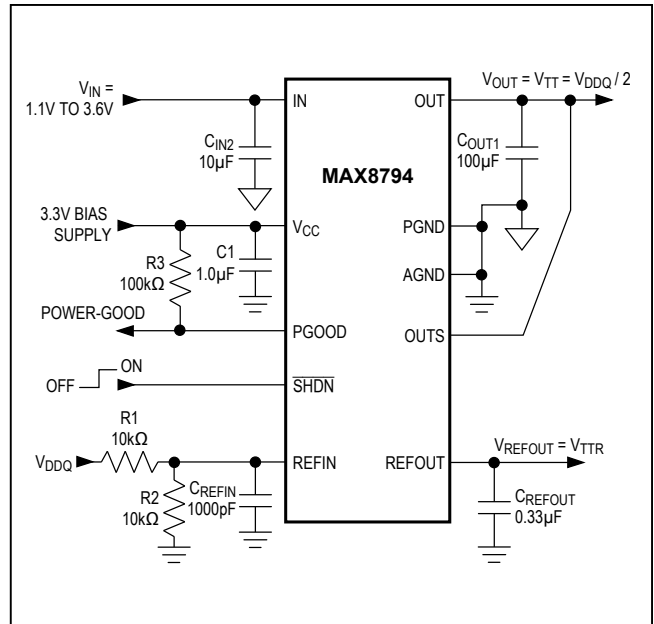
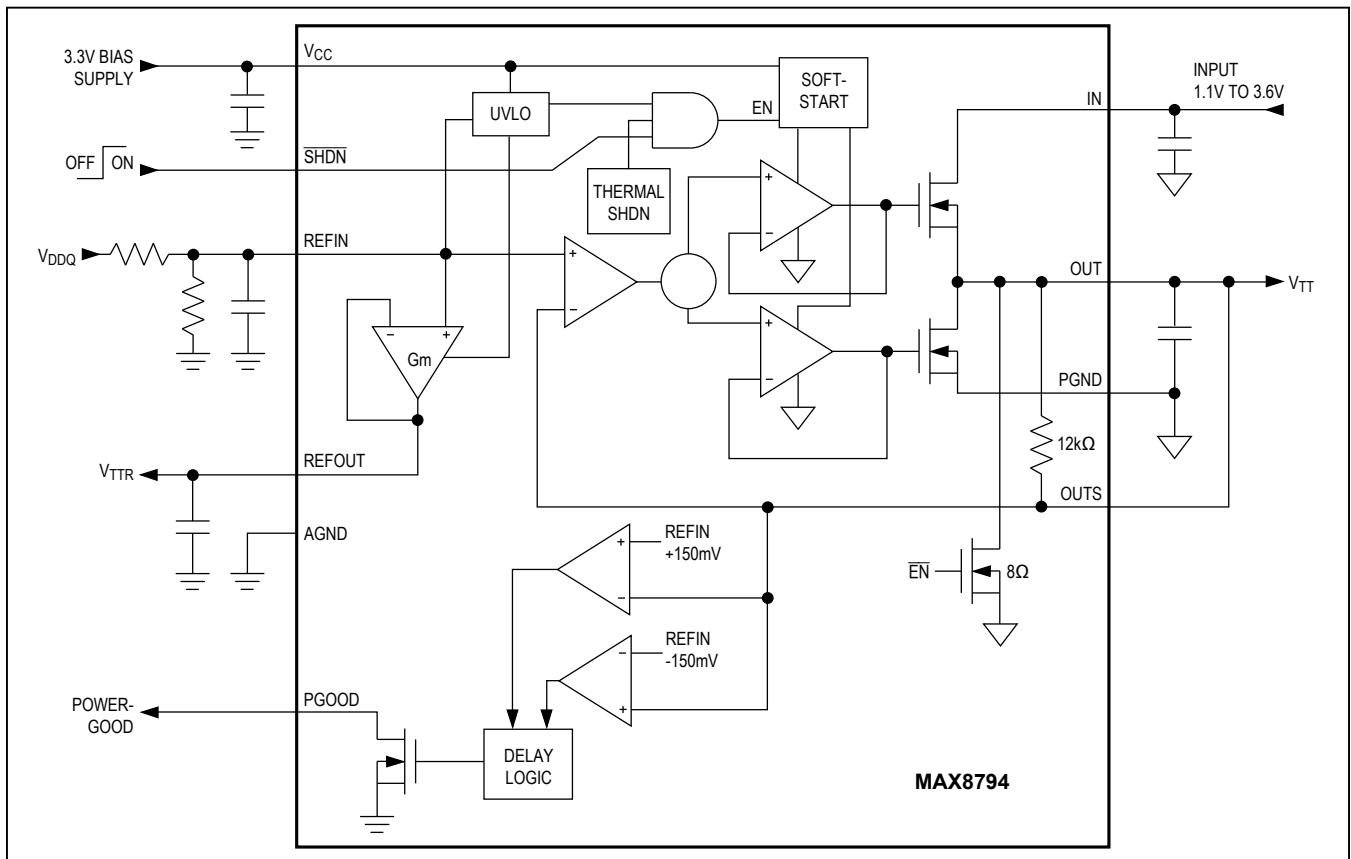

Figure 1. Standard Application Circuit
Figure 2. Functional Diagram
($V_{IN} = 1.8\text{V}$, $V_{CC} = 3.3\text{V}$, $V_{REFIN} = V_{OUTS} = 1.25\text{V}$, $\overline{\text{SHDN}} = V_{CC}$, circuit of Figure 1, $T_A = -40^\circ\text{C}$ to $+85^\circ\text{C}$, unless otherwise noted. Typical values are at $T_A = +25^\circ\text{C}$.) (Note 1)
($V_{IN} = 1.8V$, $V_{CC} = 3.3V$, $V_{REFIN} = V_{OUTS} = 1.25V$, $\overline{SHDN} = V_{CC}$, circuit of Figure 1, $T_A = -40^\circ C$ to $+85^\circ C$, unless otherwise noted. Typical values are at $T_A = +25^\circ C$.) (Note 1)
(Circuit of Figure 1. TA = +25°C, unless otherwise noted.)
The MAX8794 is a low-voltage, low-dropout DDR termination linear regulator with an external bias supply input and a buffered reference output (see Figure 1 and Figure 2). V_{CC} is powered by a 2.7V to 3.6V supply that is commonly available in laptop and desktop computers. The 3.3V bias supply drives the gate of the internal pass transistor, while a lower voltage input at the drain of the transistor (IN) is regulated to provide V_{OUT} . By using separate bias and power inputs, the MAX8794 can drive an n-channel high-side MOSFET and use a lower input voltage to provide better efficiency.
The MAX8794 regulates OUTS to the voltage set at REFIN, making the MAX8794 ideal for memory applications where the termination supply must track the supply voltage. Typically, REFIN is set by an external resistive voltage-divider connected to the memory supply (V_{DDQ}) as shown in Figure 1.
Drive SHDN low to disable the error amplifier, gate-drive circuitry, and pass transistor (Figure 2). In shutdown, OUT is terminated to AGND with an 8 Ω MOSFET. REFOUT is independent of SHDN. Connect SHDN to V_{CC} for normal operation.